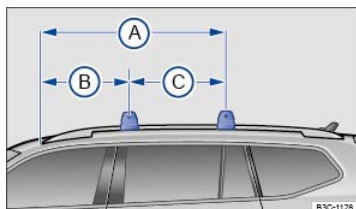

Fig. 196 On the vehicle roof: measurements for attaching the roof rack.
- The provided dimensions ⇒ Fig. 196 may be used as a guideline for installing the base carrier or roof rack.